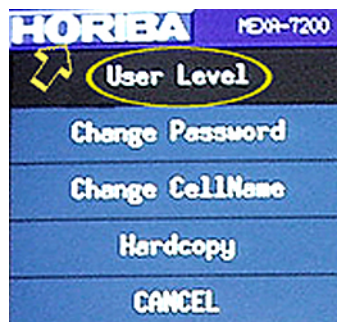

Figure 1
- 104      On the Command Screen title bar, click on the Horiba logo button. See the arrow in Figure 1.
From the menu that appears, click on “User Level.” See the circle in Figure 1.